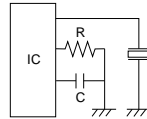

Fig.1
- When capacitors or resistors are used to change the phoning frequency, the timbre may be distorted. (See Fig. 1)